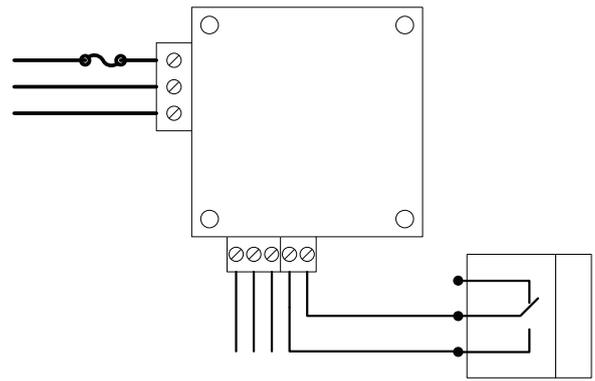
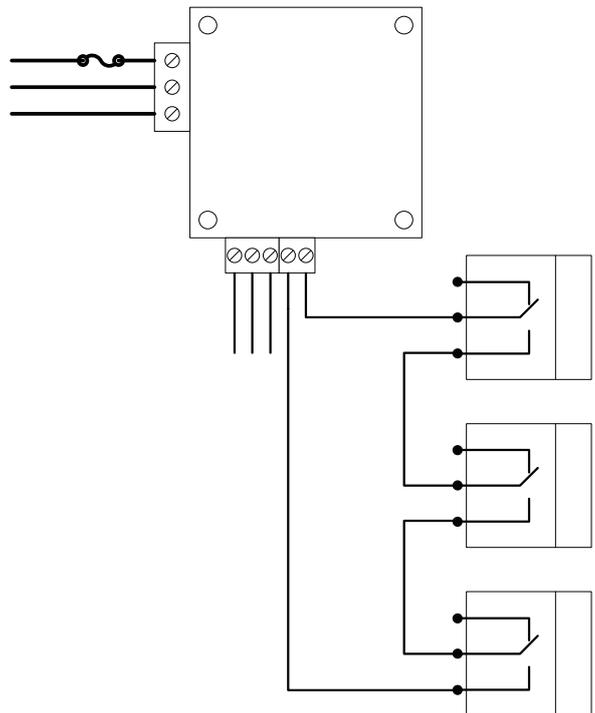

Figure 4: SIP-xxx connection to single SPD
Figure 5: SIP-xxx connection to multiple SPD
- 3.8 The Surge Indicator Panel can be connected to a single surge protection device (SPD), figure 4, or daisy-chained to multiple SPDs, figure 5. Connection of the input is such that under normal operating conditions the input connections are closed. Therefore, connection to the Novaris SPDs is via the normally-open (NO) and common (C) terminals.